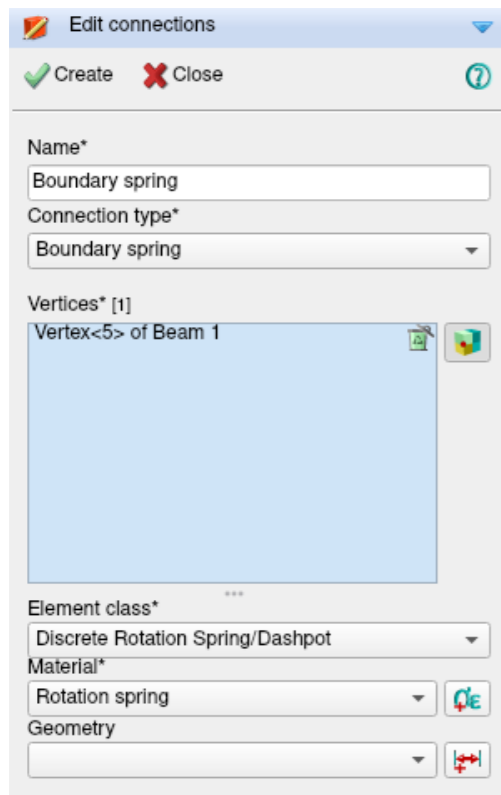

Figure 12: Boundary spring connection
**Main menu** → Geometry → Assign → Connections  [Fig. 12]